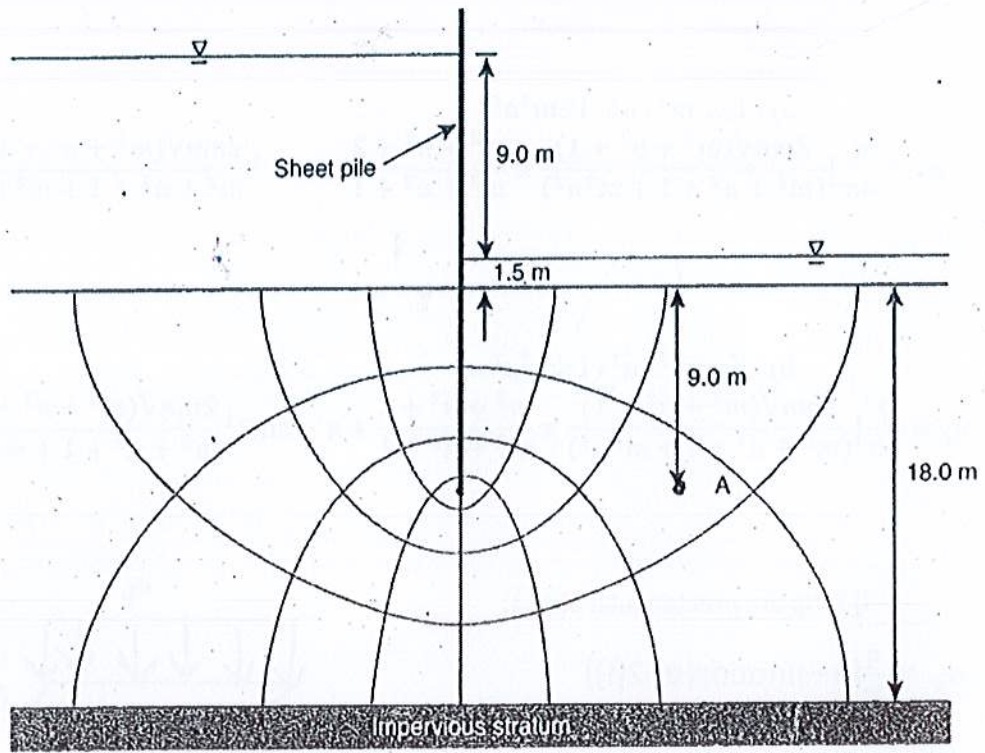

Fig. 3
4. a) Why is a filter used on the downstream side of an earth dam/embankment? How would you choose the material used for filter? (5)
b) A sheet pile is driven into sandy silt and seepage takes place under the head difference of 9.0 m as shown in Fig.3. The permeability of soil is given as 1.6×10^{-4} cm/sec and the water content of the soil is 33%. Assume $G_s=2.66$. Using the flow net diagram shown in Fig.3, compute the following: (10)